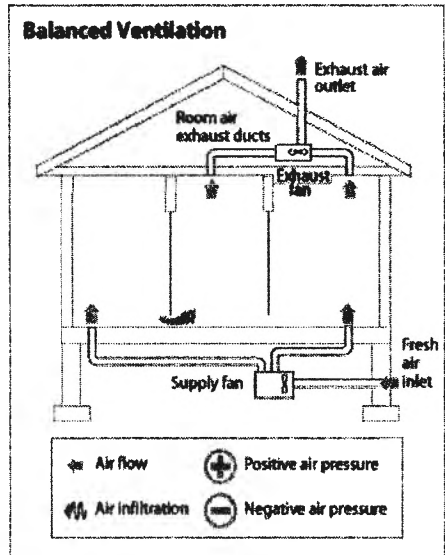

Fig. 3. Balanced ventilation
**Balanced ventilation systems** (Fig.3) neither pressurize nor depressurize a house if properly designed and installed. Rather, they introduce and exhaust approximately equal quantities of fresh outside air and polluted inside air, respectively. A balanced ventilation system usually has two fans and two duct systems and facilitates good distribution of fresh air by placing supply and exhaust vents in appropriate places. A typical balanced ventilation system is designed to supply fresh air to bedrooms and living rooms, and exhaust air from rooms where moisture and pollutants are most often generated (kitchen, bathrooms, laundry room).